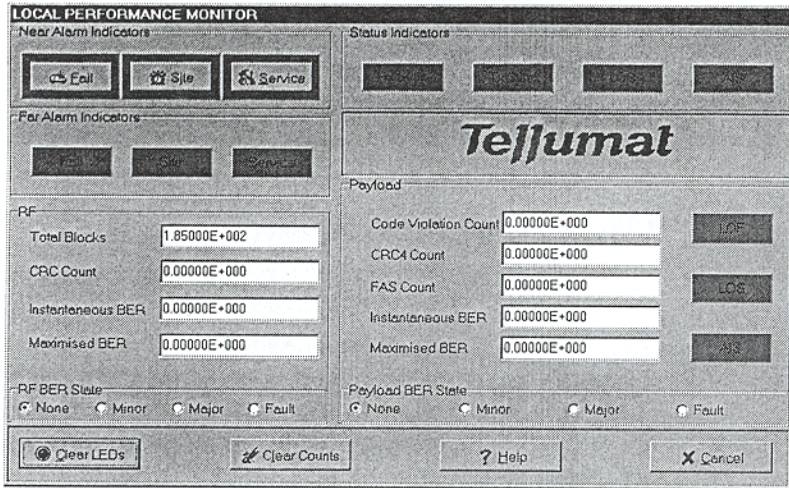

Figure 16. Indoor Unit: Typical Status Screen.
- This screen (see Figure 16) allows you to monitor the network's performance. It provides the following data: